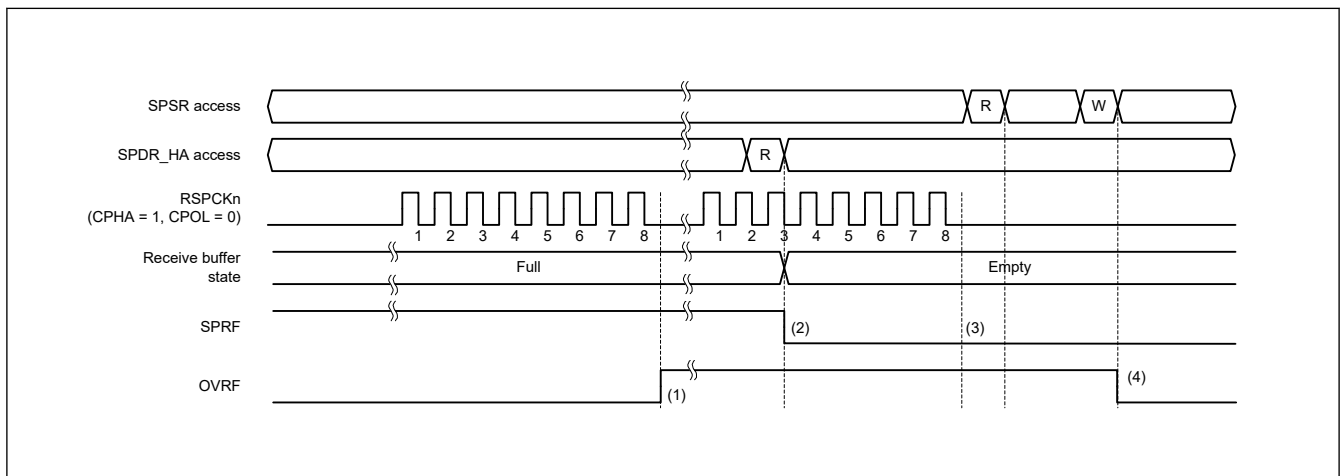

Figure 30.37 Operation example of the OVRF and SPRF flags
Figure 30.37 shows an example of operation of the OVRF and SPRF flags. The SPSR and SPDR_HA accesses shown in Figure 30.37 indicate the condition of accesses to the SPSR and SPDR_HA register, where W denotes a write cycle, and R a read cycle. In this example, the SPI performs an 8-bit serial transfer when SPCMDm.CPHA bit is 1 and the SPCMDm.CPOL bit is 0. The numbers given for RSPCKn in the waveform represent the number of RSPCK cycles, such as the number of transferred bits.
The operation of the flags at timings (1) to (4) in Figure 30.37 is as follows: